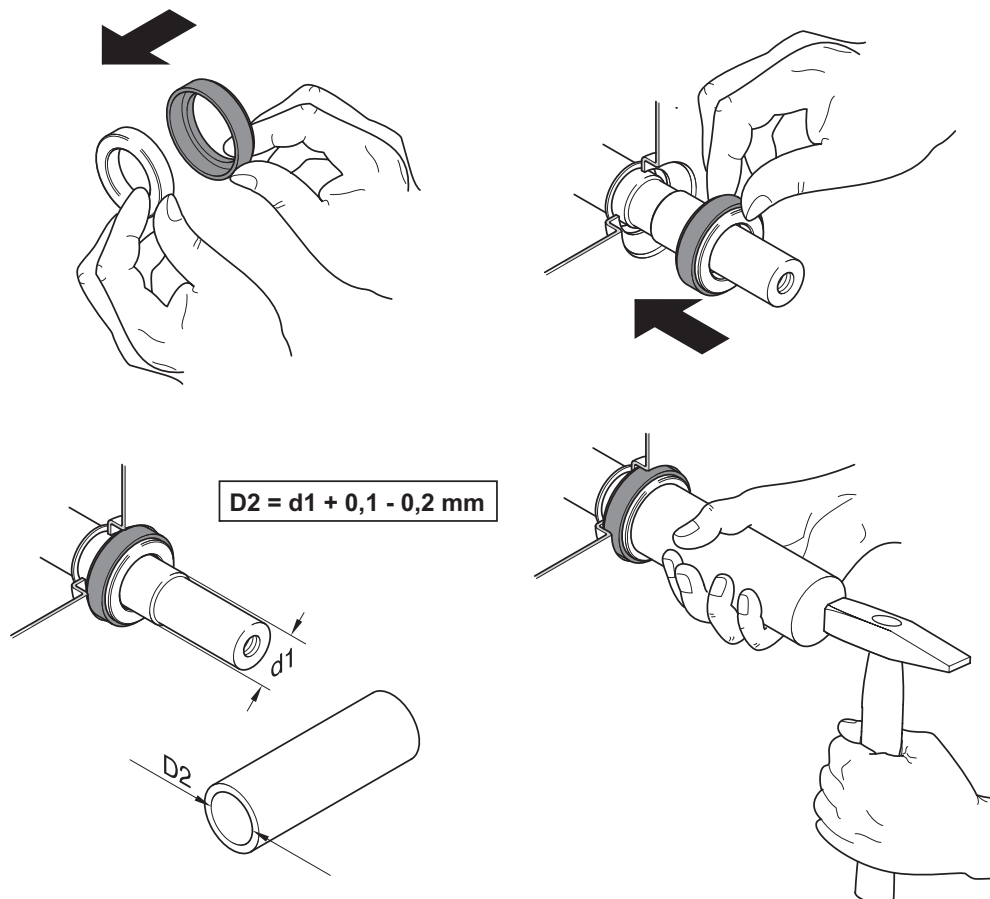

Figure 9 Fitting of the fixed ring
In particular take special care when fitting and pressing home the fixed ring that it is not tilted. When pressing it home over the seal surface use a suitably dimensioned plastic tube (see Figure 9) with a perfectly flat surface. The inner diameter should be such that it slides closely over the shaft end. This will prevent tilting and damage to the sliding surfaces!
*While the illustration Figure 9 shows the fitting of the profile seal, in most cases it is already fitted to the fixed ring.*